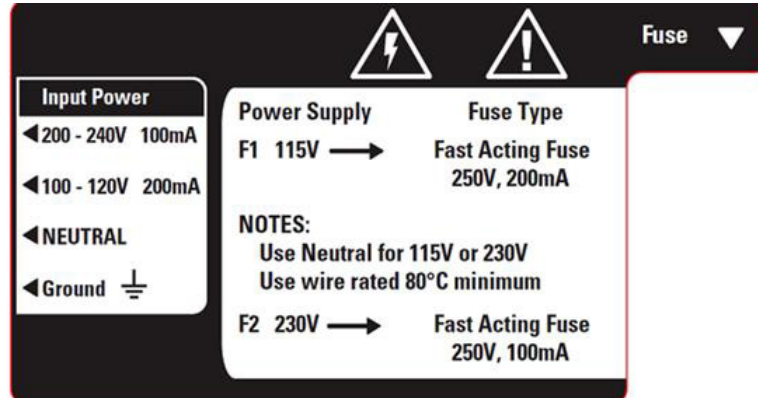

Figure 6: Power Supply
- Power supply – Refer to Figure 6.
6. Plug the terminal connector into the power supply. Refer to Figure 6.
7. The universal power supply uses both fuses in the fuse kit. Install by inserting the fuse in the fuse holder and secure it using the twist and lock method. The fuses are clearly labeled with the appropriate voltages for your system. Refer to Figure 6 and Figure 8 for the correct fuse holder positions. Refer to the table below for fuses required.